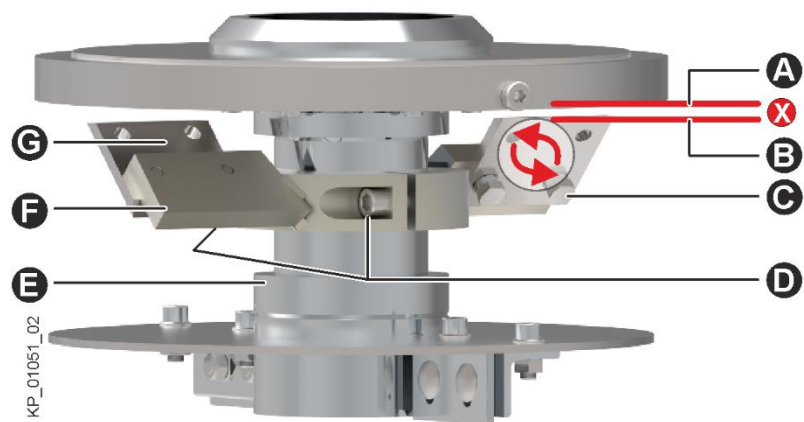

Fig. 60: Breaking-off device
The minimum distance (Fig. 60/X) between the upper edge of the knives (Fig. 60/B) and the lower edge of the die (Fig. 60/A) must be 2 mm. Severe property damage may be the result of a wrong distance.
- Loosen the screws (Fig. 60/C).
- Turn round the knife (Fig. 60/G) and tighten the screws (Fig. 60/C) again.
- Loosen the screws (Fig. 60/D).
- Adjust the height of the breaking-off device (Fig. 60/F).
- Retighten the screws (Fig. 60/D).